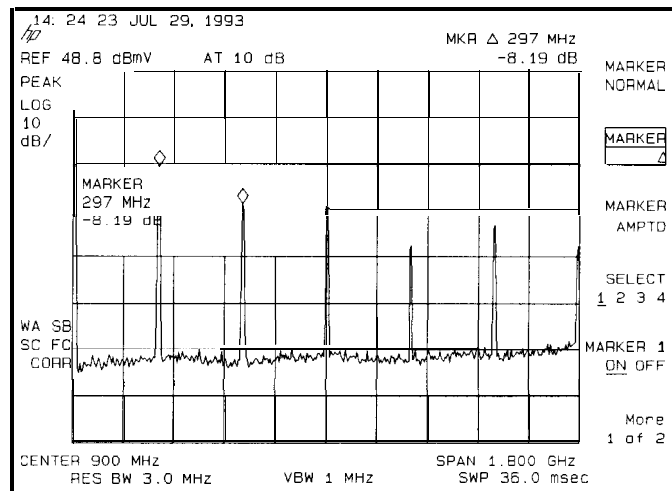

Figure 4-12. Using the Marker Delta Function
4. The amplitude and frequency difference between the markers is displayed in the active function block and in the upper-right corner of the screen. See Figure 4-12.